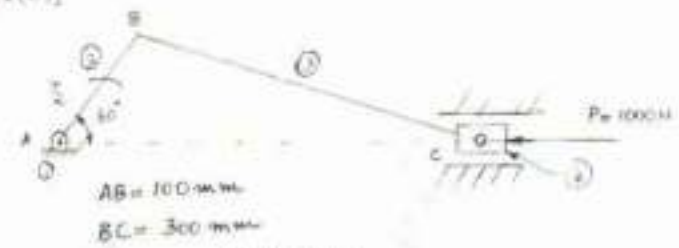

Fig.Q1(b)
- b. A slider crank mechanism is as shown below. A force of 1000 N is applied to the piston when the crank is at 60° from the IDC. Calculate the driving torque  $T_2$ . Also calculate all forces [Refer Fig.Q1(b)]